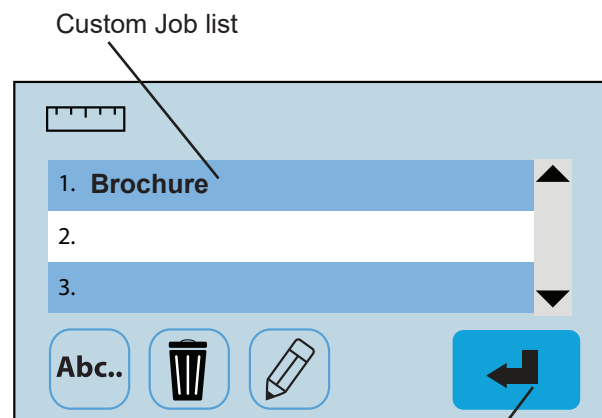

Fig. 21
6. Select the custom job and press the blue enter icon  to set the fold stops (Fig. 21).